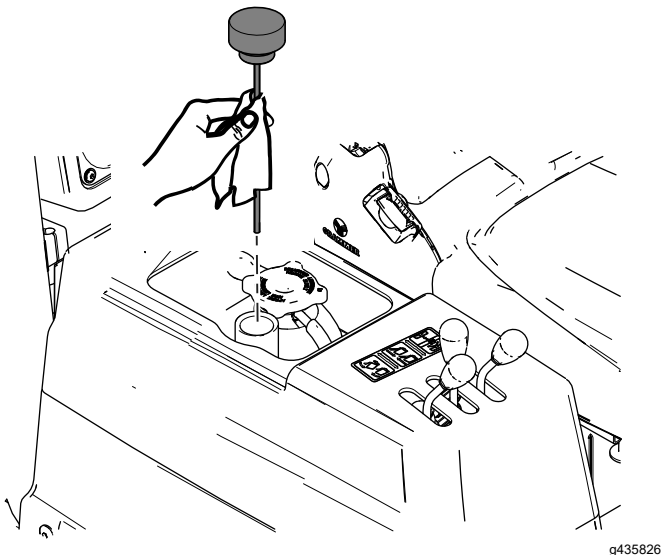

Figure 82
4. Remove the dipstick from hydraulic tank and wipe the dipstick with a clean cloth (Figure 82).